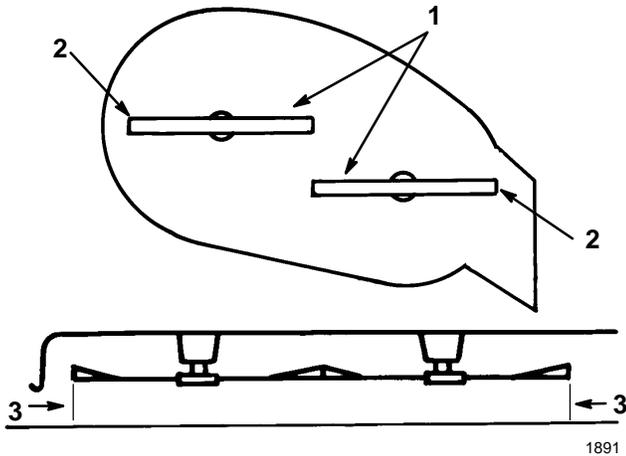

Figure 49
- Carefully rotate blade(s) side to side (Fig. 49). Measure between the outside cutting edges and the flat surface (Fig. 49). If both measurements are not within 3/16" (4.8 mm), an adjustment is required; refer to steps 5 and 6.